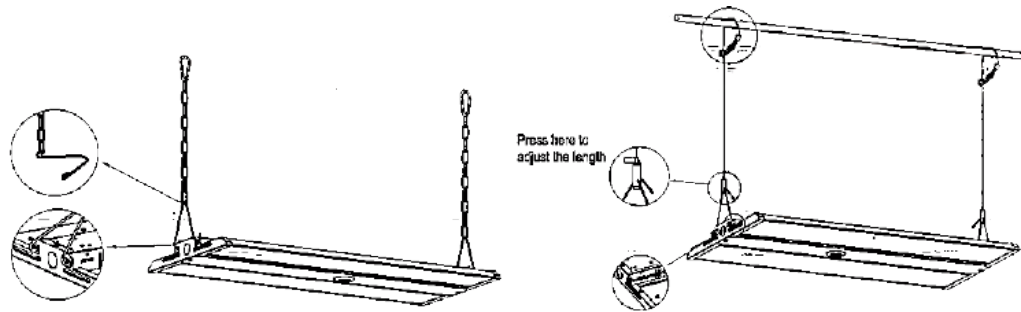

Figure 1
- Step 1: Hook up the chain; (Figure 1)
- Step 2: Connect the chain with fixture; (Figure 1)
- Step 3: Secure the chain on the rail, adjust the chain length as per need; (Figure 1)